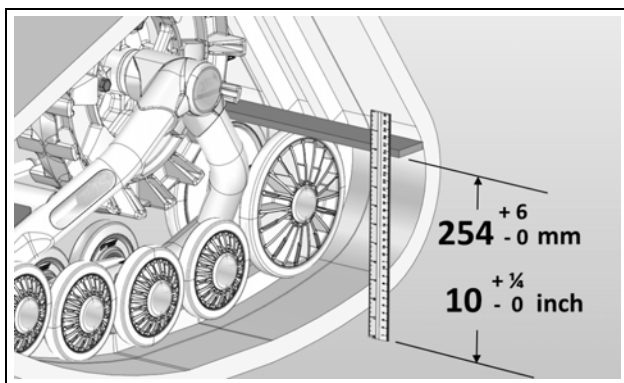

Figure 5
- Position a flat bar on top of rear wheels of front track system and measure from the ground up to flat bar as shown on Figure 5.